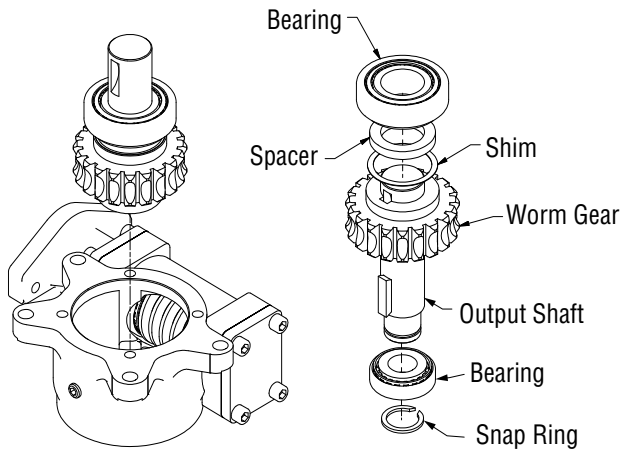

Figure 5-9, Output Shaft
7. Remove the output shaft assembly. (Figure 5-9)